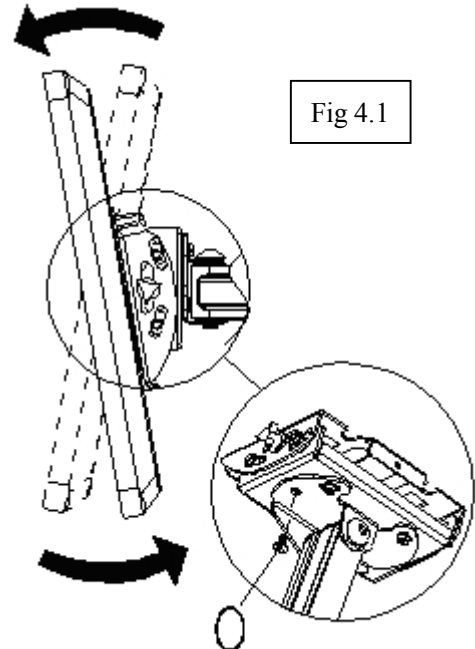

Fig 4.1
Adjust the tension knob on side the of the wall mount bracket in figure 4.1 to the desired tension to balance the weight of the display panel. Rotate the display panel to adjust tilt angle from 15° forwards to 5° backwards. Using #10-32x1/4" flat head screw (O) to lock the display panel as shown in figure 4.1.